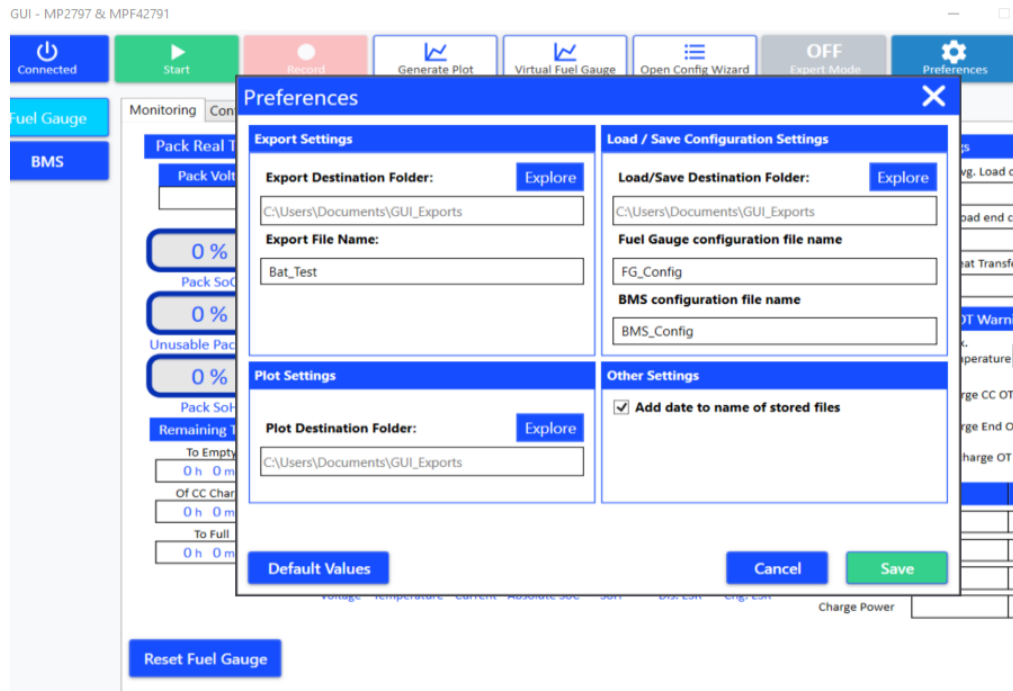

Figure 32: Preferences Window
- Select the directories for the exports (“.csv” monitoring exports, configuration exports, or plots). The export names provide the option to add the date and time to the export files (see Figure 32).
4. Once the configurations have been made, click “Save” (see Figure 32 on page 26). The configurations should be saved.